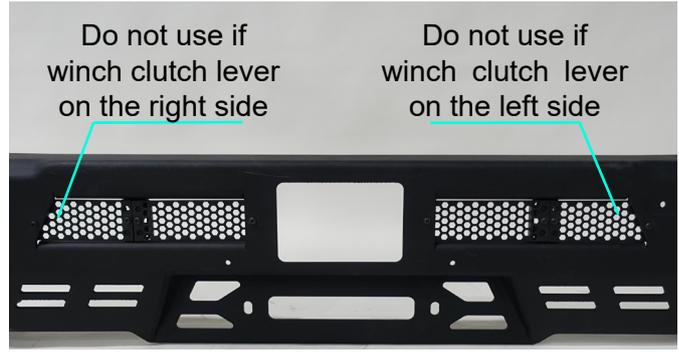

Fig.43
43. Do not install grille on the left or right side of bumper body, in case you will install winch (fig.43).